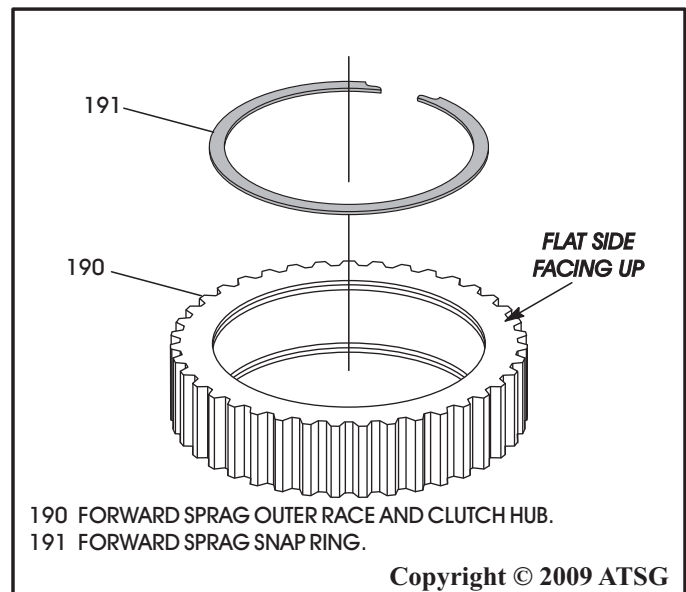

Figure 156
4. Place outer sprag race on a flat work surface with the flat side of outer race facing up, as shown in Figure 156.
5. Install one of the snap rings into the upper groove, as shown in Figure 156, and ensure that it is fully seated.